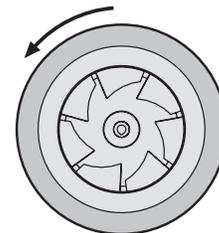

Figure 2
3. Start the fan and shut it off immediately to check rotation of the wheel, see Figure 2.
**Wheel Rotation** - Direction of wheel rotation is critical. Reversed rotation will result in poor air performance, motor overloading and possible burnout. Rotation should be counterclockwise when viewed from the fan inlet as shown in Figure 2. If wheel rotation is incorrect, switch two of the wiring leads for 3 phase power supply or check motor wiring for single phase power supply. Fan RPM should be checked and verified with a tachometer.